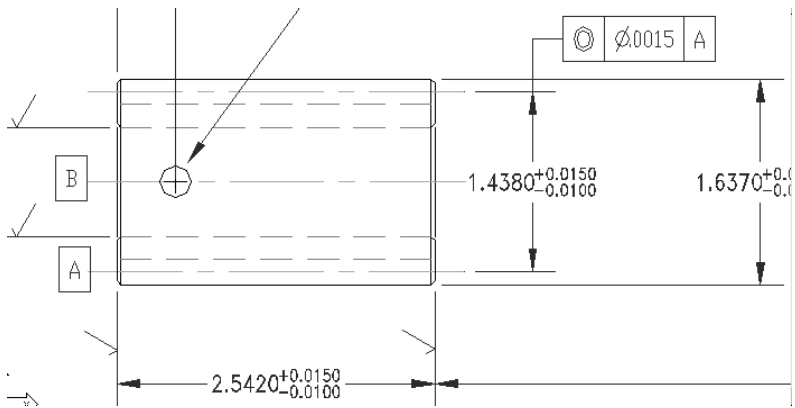

Figure 15-30: Deviation tolerances.
- ♦ **Deviation** tolerances can have different upper and lower amounts and are therefore shown after separate plus and minus signs, as shown in Figure 15-30. When you choose a deviation tolerance, the Upper Value and Lower Value text boxes become active.